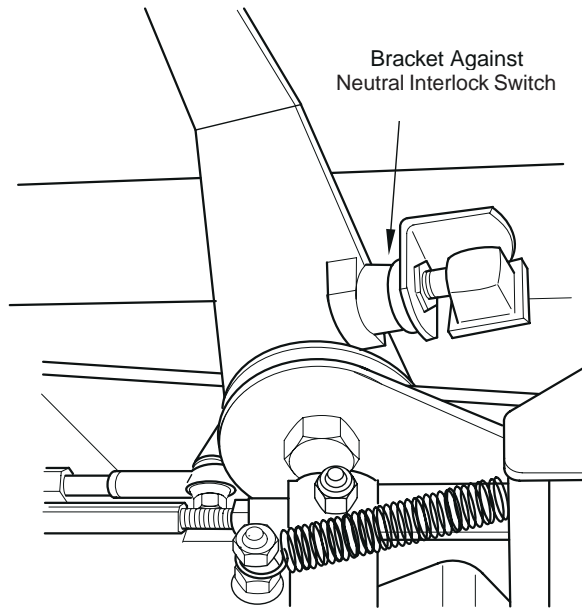
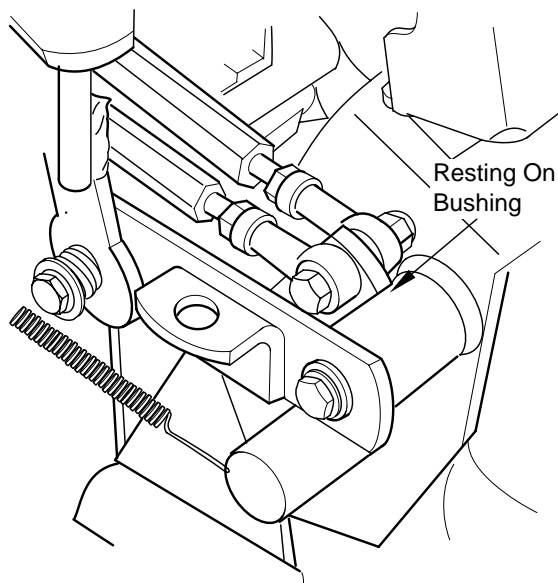

Figure 6-4 Neutral Position
Figure 6-5 Bellcrank Touching Bushing
1. Place the speed control lever in the neutral position (Figure 6-4).
2. Check that the speed control bellcrank (Figure 6-5) is touching the bushing on the frame and that the block on the speed control lever has engaged the neutral switch (Figure 6-4). The switch button should not be fully compressed. If the switch is engaged, but the bellcrank is not touching the bushing, full speed will not be obtainable.